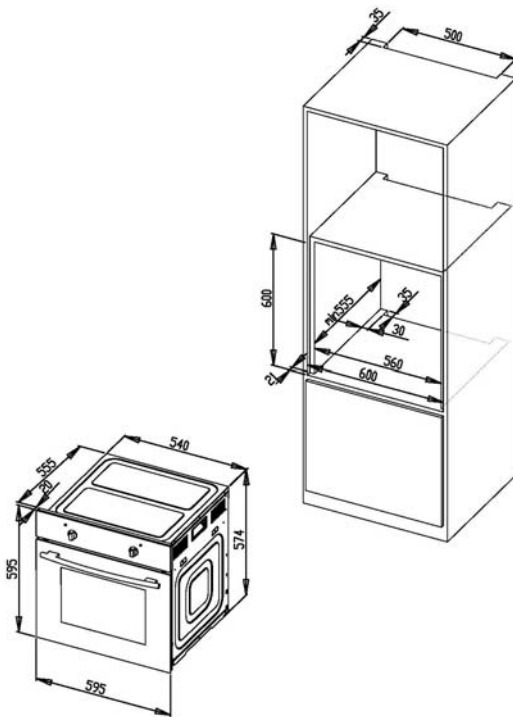

FIG.4
1. The oven has to be installed as indicated in Fig.4, whether under a hob or in a column.
2. On inserting the oven in a column, it is essential in order to ensure there is enough ventilation, to remove the rear panel of the furniture and have an opening of at least 85 - 90 mm as indicated in Fig.4.